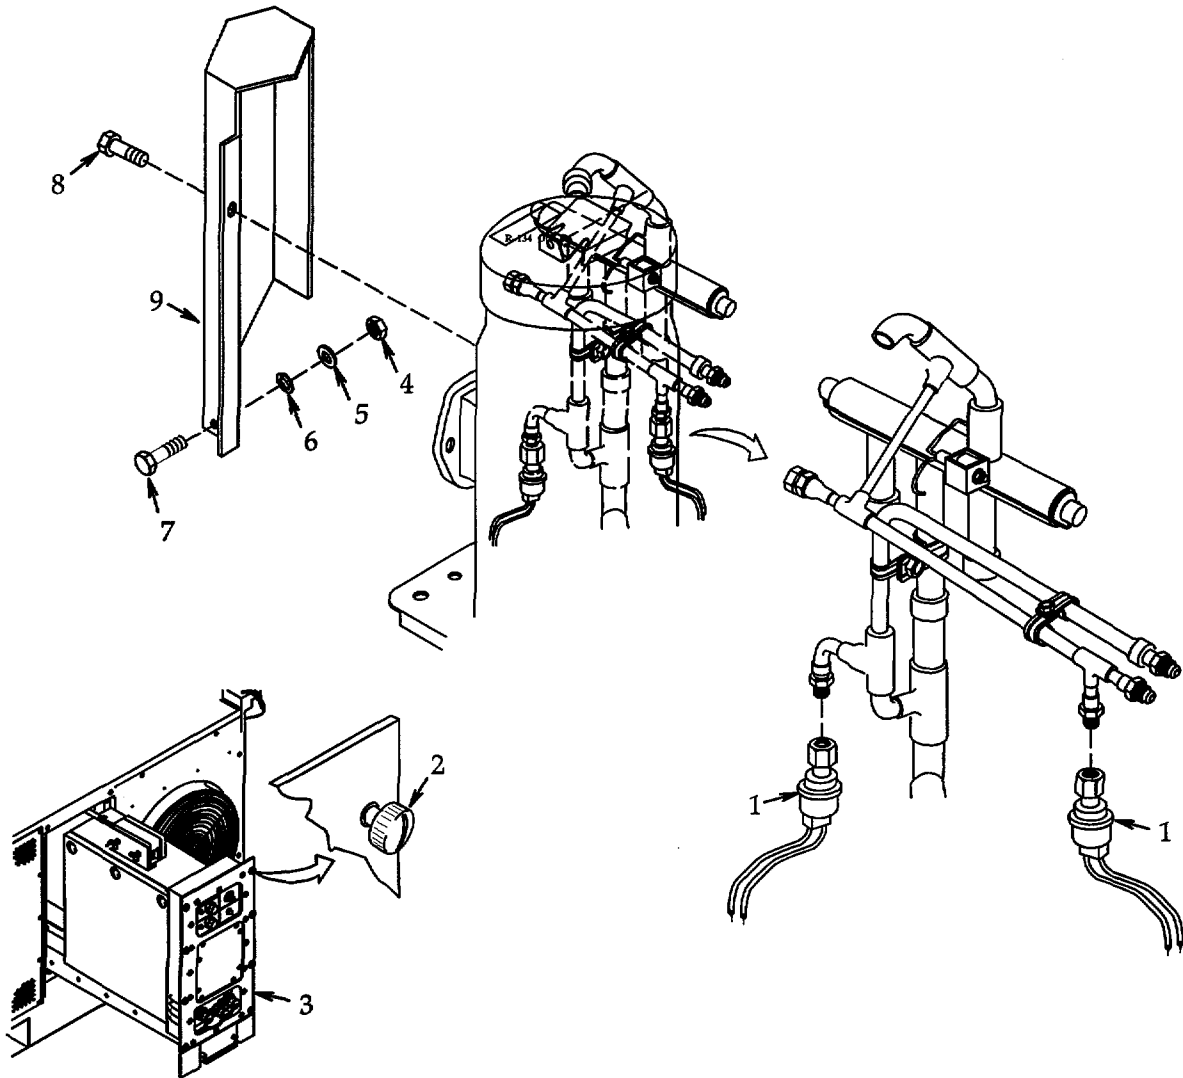

Figure 5-14. High or Low Pressure Cutout Switch (S2 or S3).
- a. **Removal.** See figure 5-14.
- (7) Remove pressure cutout switch (1).
b. Installation. See figure 5-14.
- (1) Install pressure cutout switch (1).